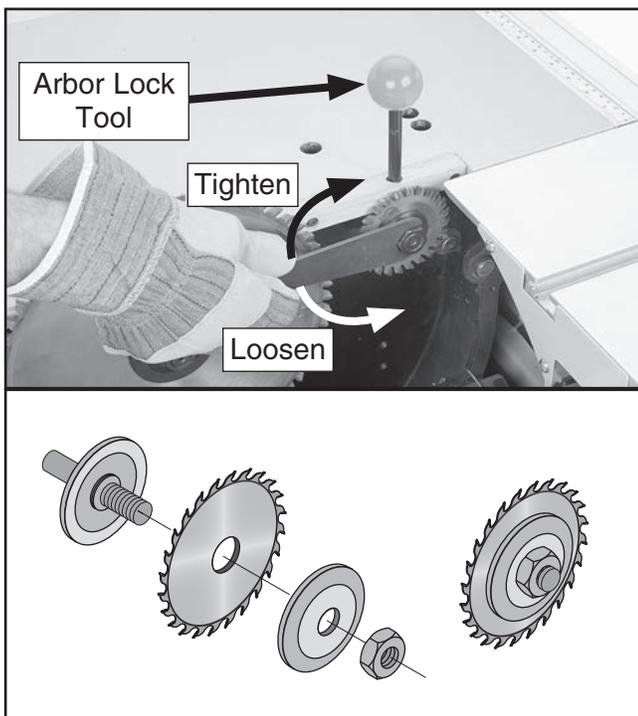

Figure 45. Removing/installing scoring blade.
4. Insert the arbor lock tool in the table, rotate the scoring blade to seat the arbor lock tool, and use the arbor wrenches to remove the arbor nut and scoring blade (see **Figure 45**).
5. Install the new scoring blade as shown in **Figure 45**, tighten the arbor nut, and adjust the scoring blade alignment and height as necessary.